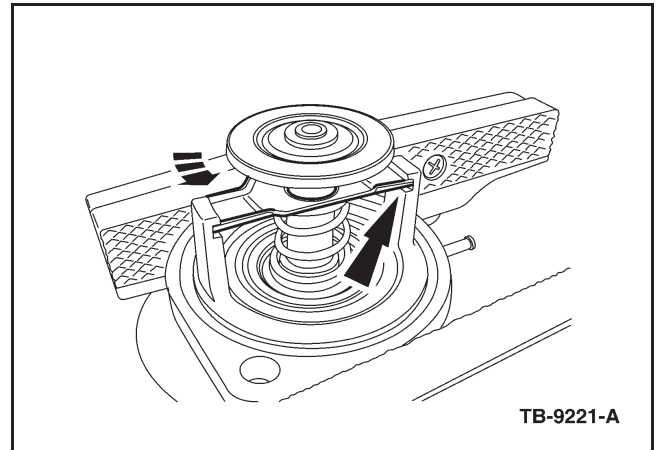

Figure 9 - Article 08-23-1
5. Position the thermostat housing assembly in the vise. Press down on the thermostat crossbar and rotate the thermostat to remove it from the thermostat housing assembly. (Figure 9)